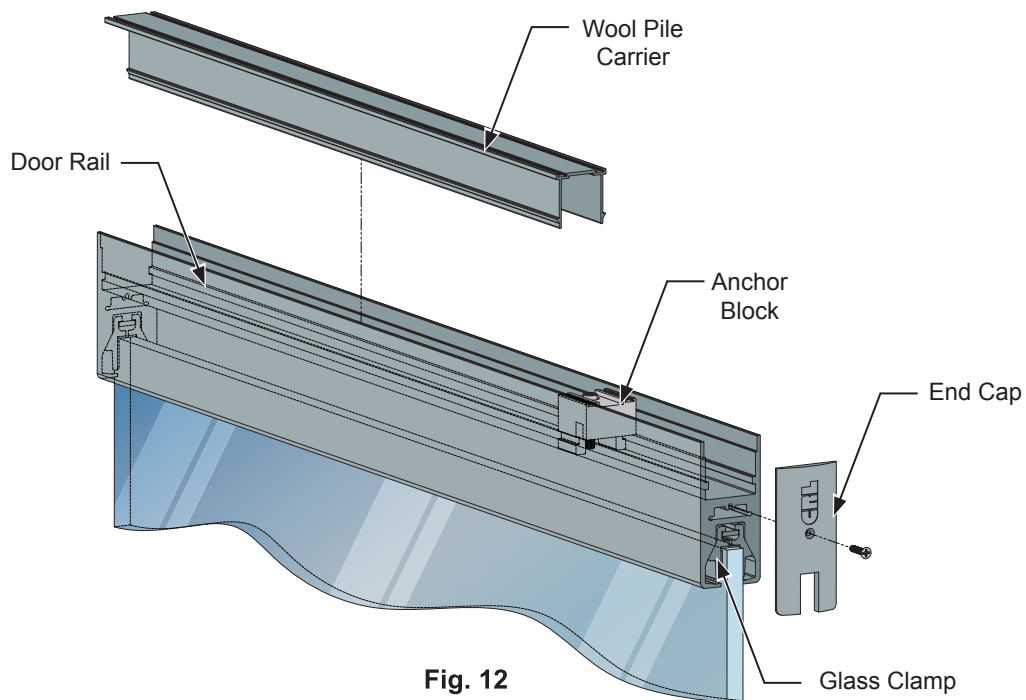

Fig. 12
1. Remove both End Caps from the rail. **(Fig. 12)**
2. Remove the wool pile carrier from the rail. **(Fig. 12)**